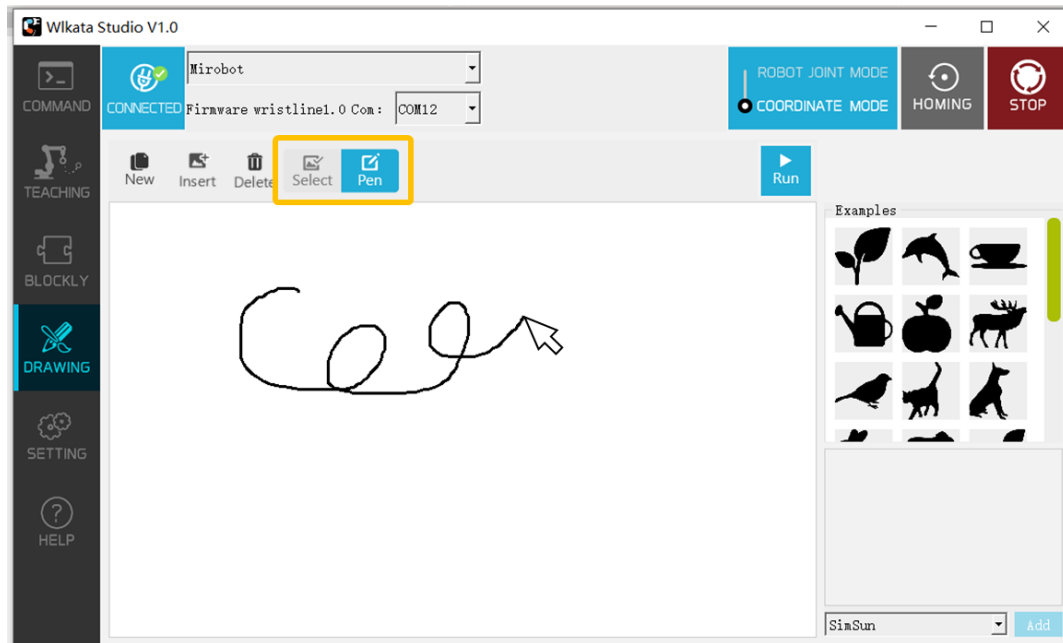

Figure 3.38 Switching from Select mode to Pen mode to draw by mouse
(10) To add a mouse drawing graph, click the **Select | Pen** button to switch from the **Select** mode to the **Pen** mode. And then you can use your mouse as a pen to draw on the center canvas, as shown in Figure 3.38.